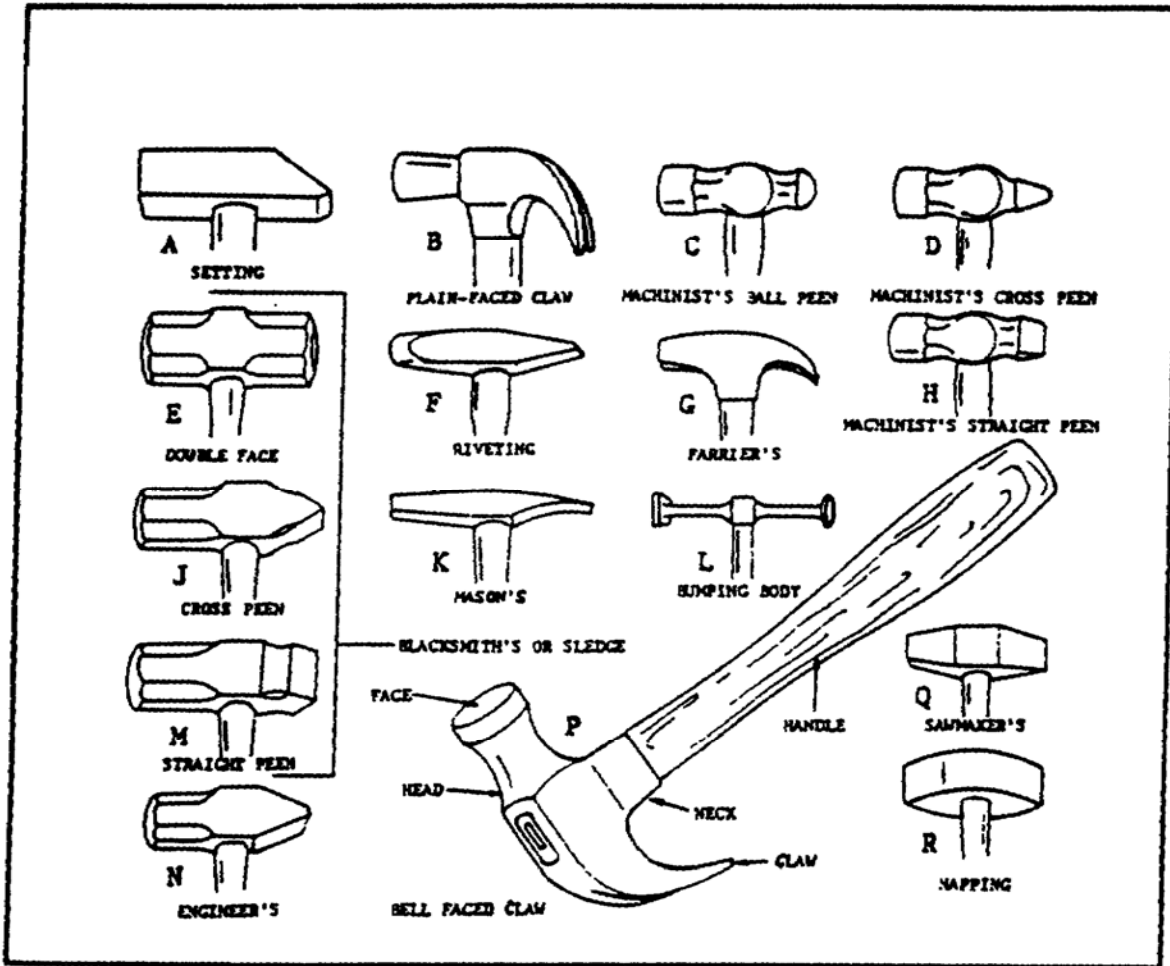
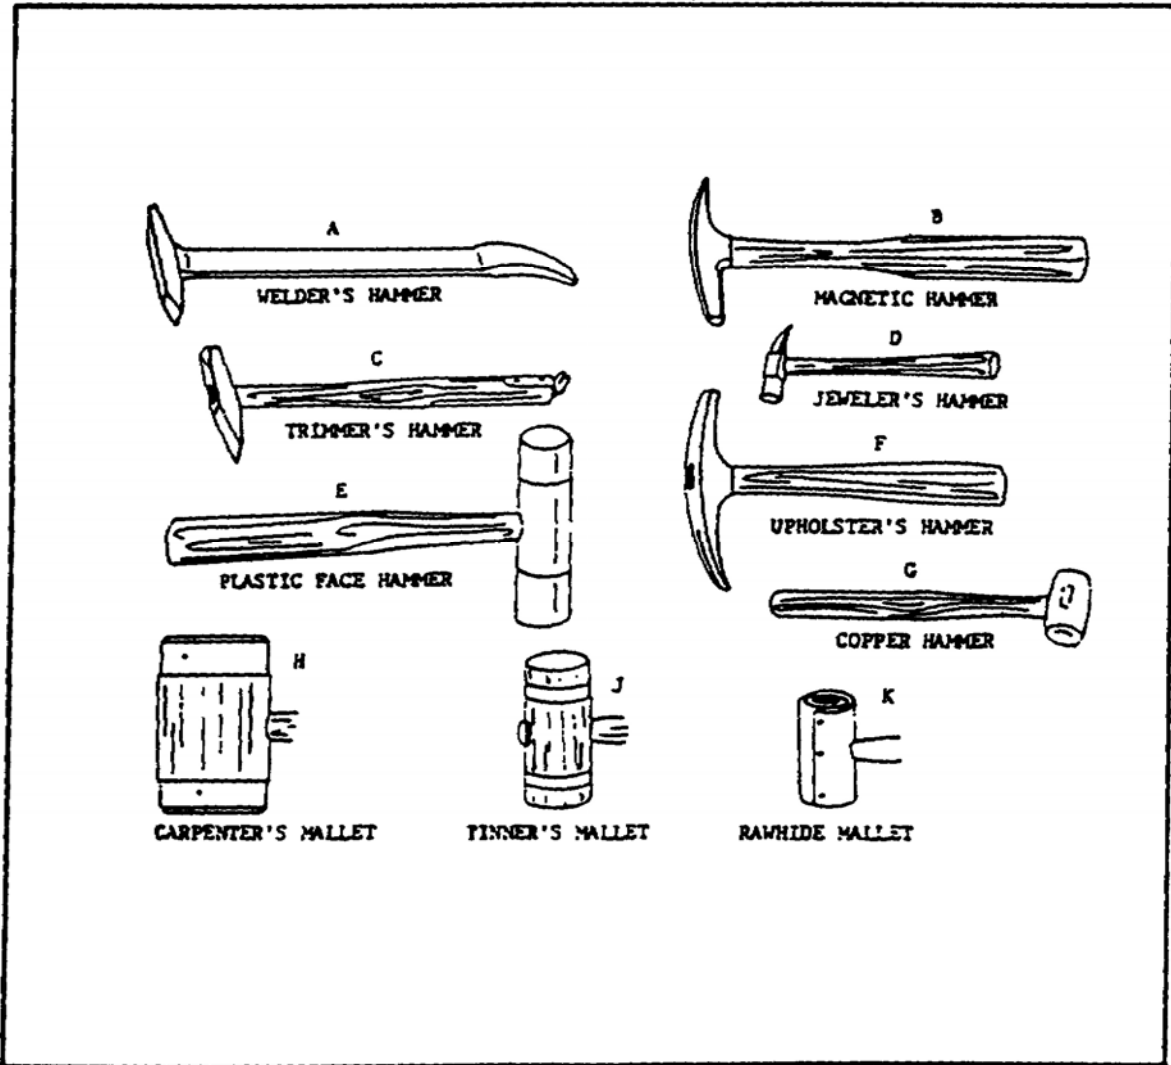

FIGURE 1. TYPES OF HAMMERS.
FIGURE 2. MALLETS AND HAMMERS.
a. *Purpose.* Hammers and mallets (figure 1 and figure 2) are used to drive nails, spikes, drift pins, bolts, and wedges. They are also used to strike chisels and punches, and to shape metals. Sledge hammers are used to drive spikes and large nails, to break rock and concrete, and to drift heavy timbers.
(1) *Carpenter's Hammers.* A carpenter's hammer is a steelheaded, wood-handled, nail-driving tool. There are two types of carpenter's hammers. Both types have claws at the back of the hammer head for pulling nails. The difference between them lies mainly in their faces. One type has a flat face (figure 1, view B). The other type has a rounded or convex face and is known as a bell-faced claw hammer (figure 1, view P). Carpenter's hammers are issued in 7 ounce, 10 ounce, and 1 pound sizes.
(a) *Ball-Peen Hammer.* The most common is the machinist's ball-peen hammer (figure 1, view C). It has a round ball-shaped head and is used for all general purpose work.
(b) *Cross-Peen Hammer*. The machinist's cross-peen hammer (figure 1, view D) has a dull chisel head at right angles to the handle and is used for spreading or drawing out metal. This hammer is issued in 3, 6, 8, 10, and 12 pound sizes.
(c) *Straight-Peen Hammer*. The machinist's straight-peen hammer (figure 1, view R) has a drill chisel head in line with the axis of the handle and is used for spreading and drawing out metal.
(3) *Blacksmith's or Sledge Hammers*. Blacksmith's or sledge hammers are similar to machinist's peen hammers, except that they are made for heavy-duty. Short handled sledge hammers are used to drive bolts, drift pins, and large nails, to strike cold chisels when chipping and small hand rock drills when drilling holes in rock. Long handled sledge hammers are used to break rock and concrete, to drive spikes and bolts, to strike rock drills and chisels, and to drift heavy timbers. The handle is usually made of the best grade clear grain hickory, ash, or maple, completely free from defects. Some sledge hammers have a double face (both sides alike) (figure 1, view E), cross-peen face (figure 1, view J), or straight-peen face (figure 1, view M). They are made in sizes from 6 to 20 pounds, having handles 30 to 36 inches long.
(4) *Bumping Body Hammers*. A bumping body hammer (figure 1, view L) is used for straightening and bumping metal. The hammer shown has one round and one square face and the head is 4 inches long.
(5) *Engineer's Hammer*. The engineer's hammer (figure 1, view N) has a cross-peen face and weighs 3 pounds. This hammer is similar to the blacksmith's or sledge cross-peen hammer, only it is lighter in weight and is used on lighter work.
(6) *Jeweler's Hammer*. A jeweler's hammer (figure 2, view D) is used for light hammering and for driving small shafts and pins. This hammer weighs 1 3/4 to 2 ounces and generally has a hardwood handle.
(7) *Welder's Hammer*. A welder's hammer (figure 2, view A) is used for chipping welds. The opposite end of the hammer is sometimes equipped with a wire brush for cleaning metals before welding, and for brushing slag away after chipping.
(8) *Soft-Faced Hammers*. Wood-handled, soft-faced hammers are used for striking heavy blows where the steel-faced hammers would bruise or mar the surface of the work. The soft faces are made of rubber, wood, rawhide, copper, lead, or plastic, and the head may vary in weight from 6 ounces to 6 pounds. The Army Ordnance Supply System issues a 3 pound copper hammer (figure 2, view G) and several inserted plastic-face hammers. The plastic-face hammers (figure 2, view G) are supplied with two soft, two medium, two tough, and two nylon replaceable faces.
(1) *Carpenter's Mallet*. A carpenter's mallet (figure 2, view H) is a wooden, short-handled tool used to drive wooden handled chisels, wooden dowels, or small stakes. The head is cylindrical and has two flat driving faces. It is sometimes reinforced with iron bands at each end. This mallet is also used for smoothing out dents in sheet metal and for turning thin metal edges and seams without cutting the metal surface.
(2) *Rawhide Mallet*. The rawhide mallet (figure 2, view K) is used to form or shape sheet metal where hard-faced or steel hammers might mar or injure the work.
(3) *Tinner's Mallet*. A tinner's mallet (figure 2, view J) is made of wood. It ranges in size from 1 1/4 inch head diameter and 3 inch head length to 3 1/2 inch head diameter and 6 inch head length.